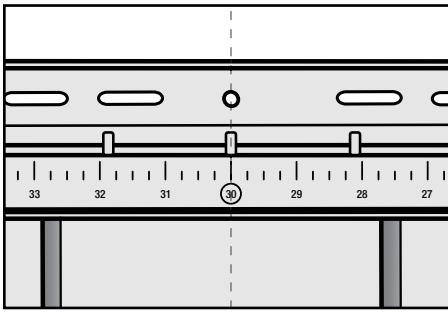

Figure 5
7. Cut 30" off of the right side of the T5 shingle at indicator 30, which is located on the hanger below the nail slots, cutting straight through the panel (*Figure 5*). Drill a 3/16" hole in the center of the nail hem and nail siding through this hole to control direction of expansion and contraction. Another option is to nail each end of a nail slot located at the center of the panel.